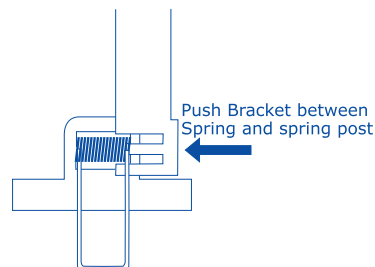

Fig. 2
3. Connect the luminaire to the transformer using the terminal block supplied. No earth connection is required. Ensure that the fitting does not come into contact with any earthed metal. Mains connection to the transformer should be made using a suitable electrical junction box in compliance with the I.E.E. Wiring Regulations. The "looping-in" of the fixed wiring supply should be maintained. See Fig. 2.